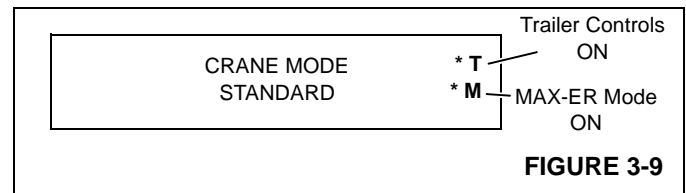

FIGURE 3-9
6. If **MAX-ER counterweight trailer is not attached (or is removed)**, turn key clockwise (select) until TRAILER CTL ON appears on display as shown in Figure 3-9.